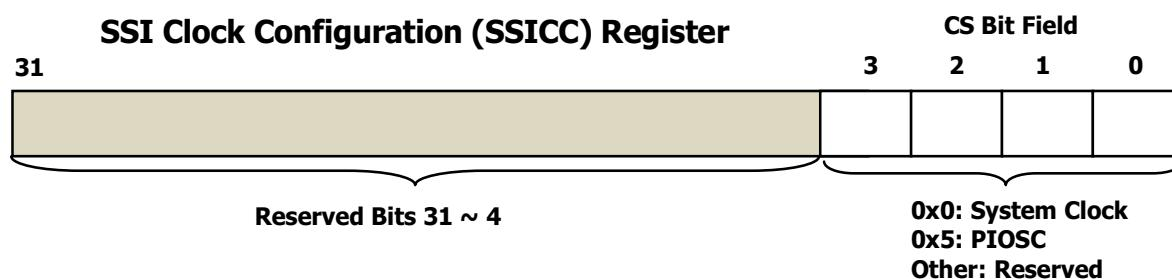

Figure 8.9 The bit field and functions of the SSICC Register.
- Figure 8.9 shows the bit field and functions of the **SSI Clock Configuration (SSICC) Register**. The lowest 4 bits or bit field **CS** in this register is used to select one of two clock sources.